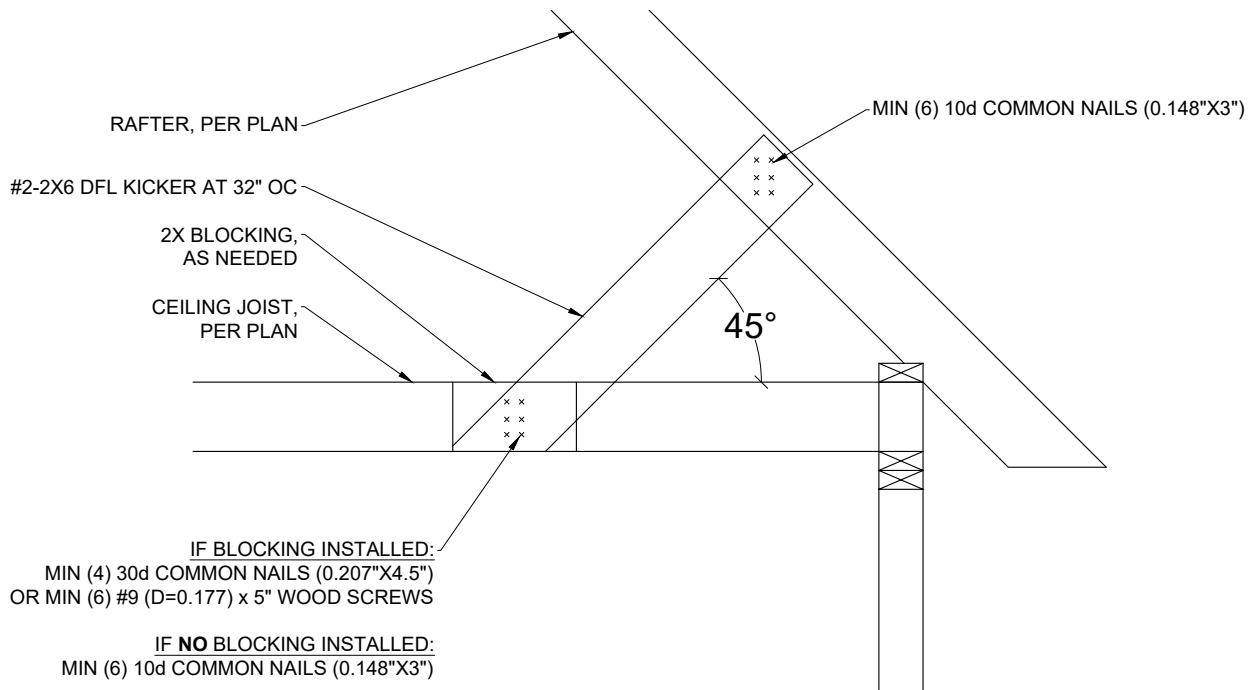

Figure 1.0 – Kicker Detail
- Rafters shall be connected to ceiling joists with #2-2x6 kickers at 36" on center, installed at minimum 45-degree angle from horizontal and fastened per Figure 1.0.